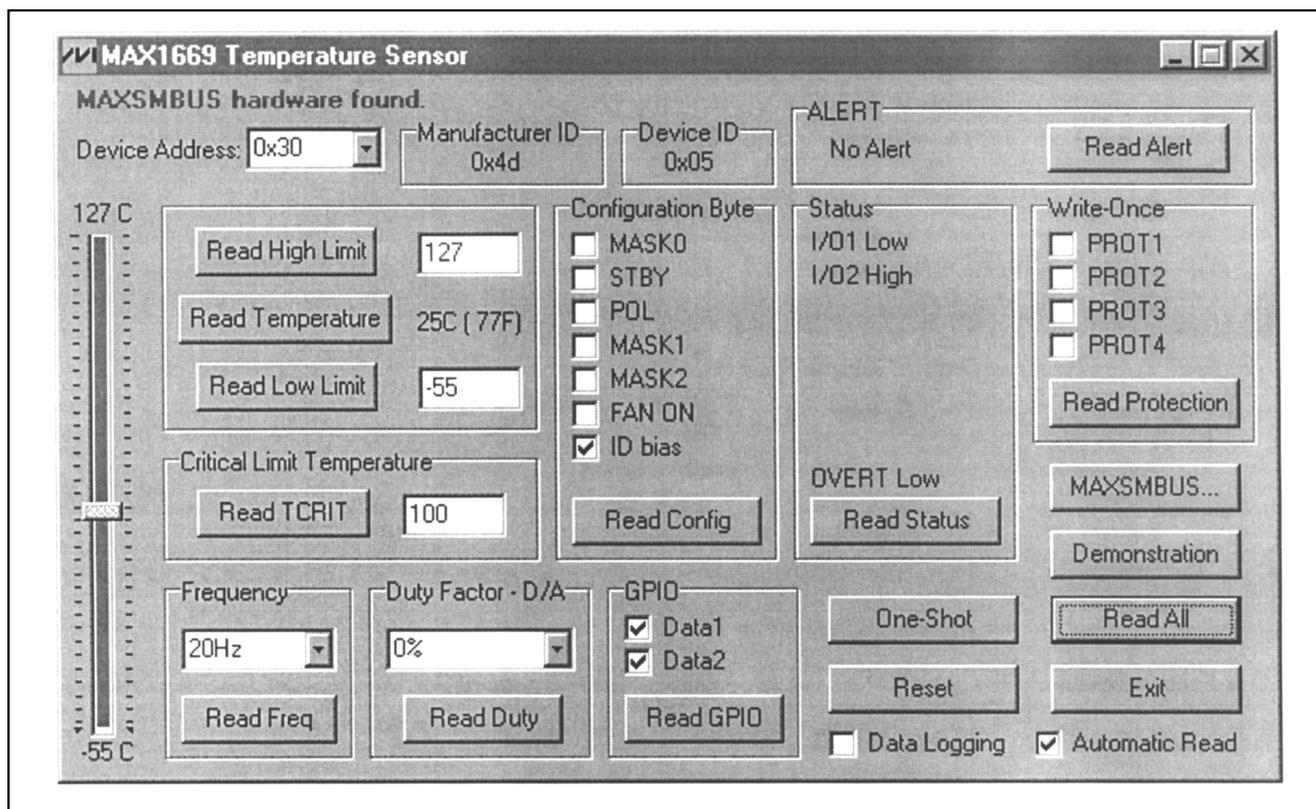

Figure 1. Main Display for MAX1669 EV Kit
- 11) The program automatically detects the address of the MAX1669 and starts the main program. Figure 1 shows the main display for the MAX1669 EV kit.